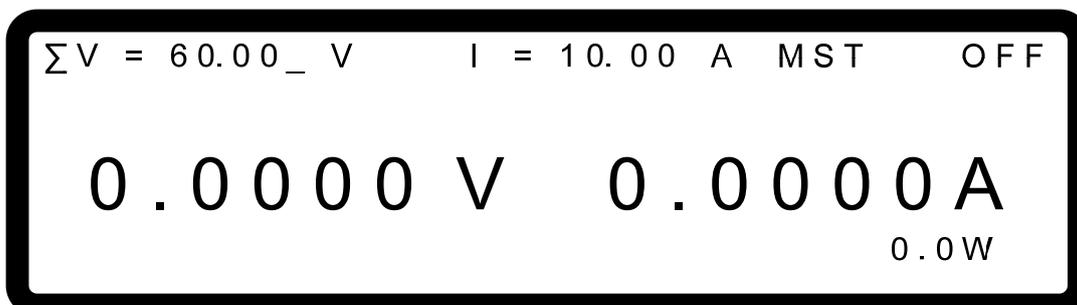

Figure 3-39
3. Press “” to confirm, it will skip to the series/parallel MASTER page automatically as Figure 3-39 shows.